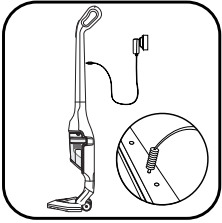

fig. 5
- Plug the charger into the mains and connect it behind the handle (fig.5).
- The charging light (4) on the front comes on. Leave the vacuum cleaner to charge. The light goes out at the end of the recharging cycle (about 16 hours).